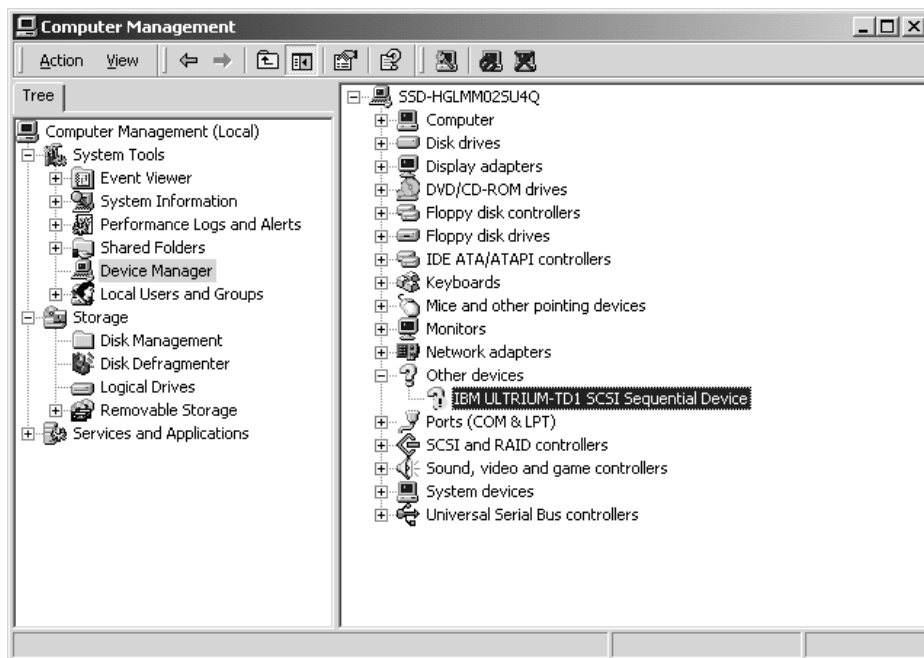

Figure 25. Computer Management Menu
7. If the Ultrium devices were powered-on and attached to your computer before you installed the Ultrium device driver, you may see them listed under Other devices. They will be marked by a question mark in the rightmost Computer Management window that follows. See Figure 25.